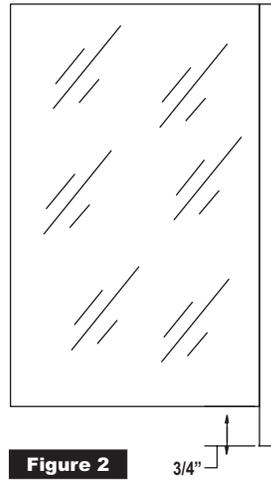

Figure 2
2. The hinge jamb and hinge rail (11 & 12) are packaged assembled. Before glazing the hinge rail (2), remove hinge jamb (11) and sleeve (10) from hinge rail. Failure to do so will cause damage to metal while glazing and result in the door hinge binding. Hold hinge rail in place against vinyl with a glazing block and glaze using a hammer. Hinge rail should extend 3/4" below bottom of glass (Figure 2) and be straight from end to end.